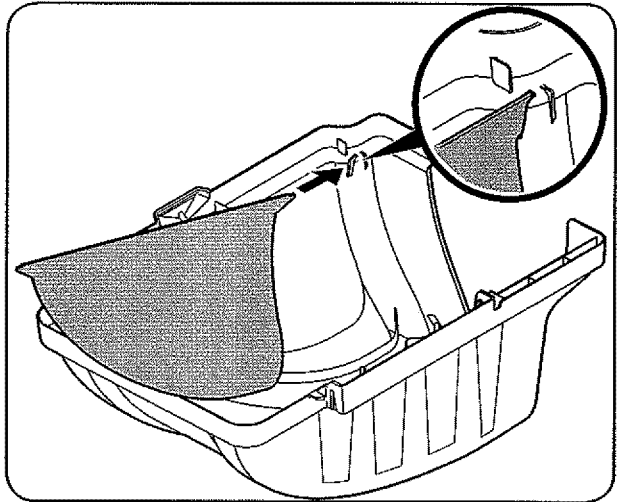
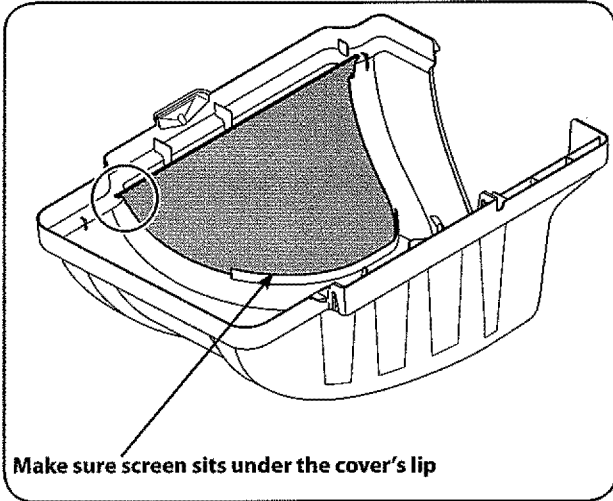

Figure 4-7
Figure 4-8
3. **If not already installed by the factory,** install the bagger screen into the bagger cover by first inserting one end into the corresponding cutout mounting hole, as in Figure 4-7. Make sure to feed the screen under the lip, as in Figure 4-8.
- Clip in the other side of the screen by flexing the screen and pushing it down into the other corresponding cutout hole. See Figure 4-8.